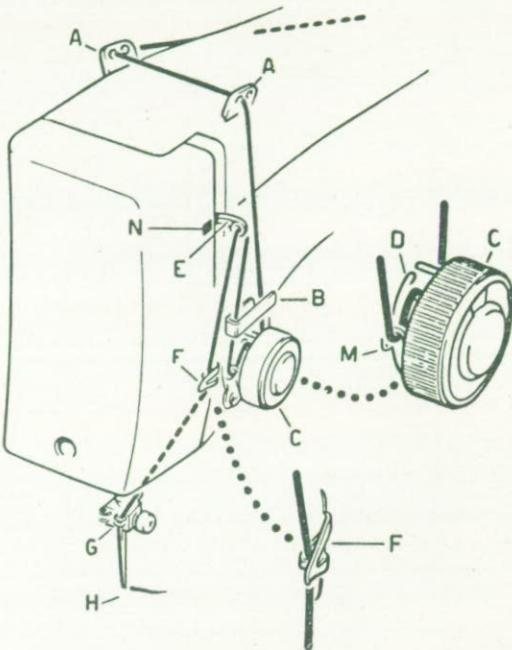

Fig. 5
Pass thread through points shown in Fig. 5. After having passed thread between tension discs housing « C », hold thread between the two thread guides « A » at the same time slightly pulling thread towards the right so that it pulls up spring « M » and places itself astride of hook « D ». The threading of spring « M » is automatically performed after the first stitches are made on the condition that tension regulating knob be at least on « 4 ». Pass thread through needle eye from left to right leaving about 4 inches hanging free.
- Bring the needle to its highest position and the thread take-up lever « E » in correspondence with mark line « N » on face plate, as shown in fig. 5;